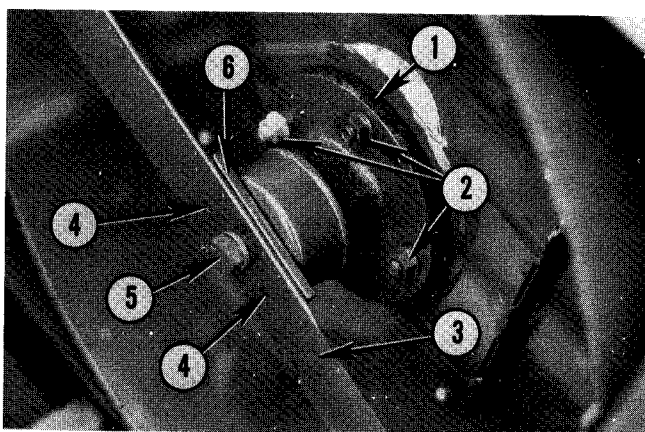

Fig. 63 — Belt Adjustment
2. Loosen outboard spindle housing nuts, No. 2, Fig. 63, one turn.
7. Tighten spindle housing bolts, No. 2, Fig. 63, to 30-35 ft.-lbs. torque. Reinstall belt covers.
Wrap blade with heavy cloth and hold while loosening bolt. Note order components are taken off so they can be replaced same way. Blades are attached to spindle by means of blade adaptor, two shear pins and a bolt with a belleville spring washer and a lockwasher, Fig. 63.